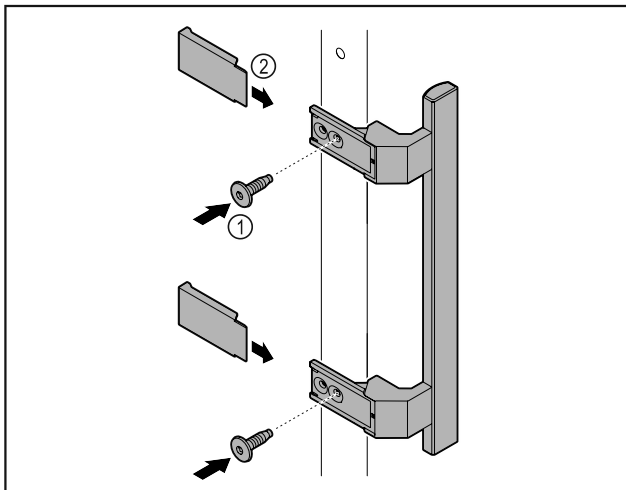

Fig. 48
- ▶ Attach handle from accessory kit to the door using the screws Fig. 48 (1) supplied.
- ▶ Put on cover Fig. 48 (2).